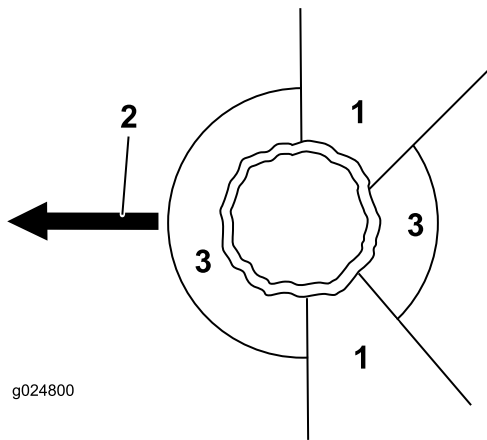

Figure 16
2. Determine a clear, safe retreat path away from the danger area; refer to Figure 16.